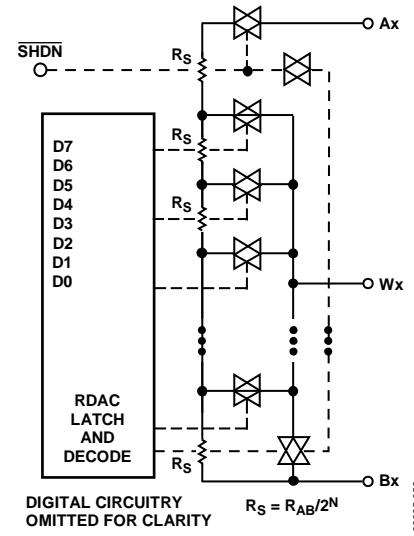

Figure 53. Simplified RDAC Architecture
The RDAC contains a string of equal resistor segments with an array of analog switches that act as the wiper connection. The number of positions is the resolution of the device. The AD5260/AD5262 have 256 connection points, allowing it to provide better than 0.4% setability resolution. Figure 53 shows an equivalent structure of the connections between the three terminals that make up one channel of the RDAC. SW_A and SW_B are always on, while one of the switches SW(0) to SW($2^N - 1$) is on one at a time, depending on the resistance position decoded from the data bits. Because the switch is not ideal, there is a 60 Ω wiper resistance, R_w . Wiper resistance is a function of supply voltage and temperature. The lower the supply voltage is, the higher the wiper resistance becomes. Similarly, the higher the temperature is, the higher the wiper resistance becomes. Users should be aware of the contribution of the wiper resistance when accurate prediction of the output resistance is needed.
accessed by the wiper terminal, plus the B terminal contact. The 8-bit data in the RDAC latch is decoded to select one of the 256 possible settings. Assuming a 20 kΩ part is used, the wiper's first connection starts at the B terminal for data 0x00. Because there is a 60 Ω wiper contact resistance, such a connection yields a minimum of 60 Ω resistance between Terminal W and Terminal B. The second connection is the first tap point corresponding to 138 Ω ($R_{WB} = R_{AB}/256$ $R_W = 78 \Omega + 60 \Omega$) for Data 0x01. The third connection is the next tap point representing 216 Ω ($78 \times 2 + 60$) for Data 0x02, and so on. Each LSB data value increase moves the wiper up the resistor ladder until the last tap point is reached at 19,982 Ω ($R_{AB} - 1 \text{ LSB} + R_W$). The wiper does not directly connect to the B terminal. See Figure 53 for a simplified diagram of the equivalent RDAC circuit.